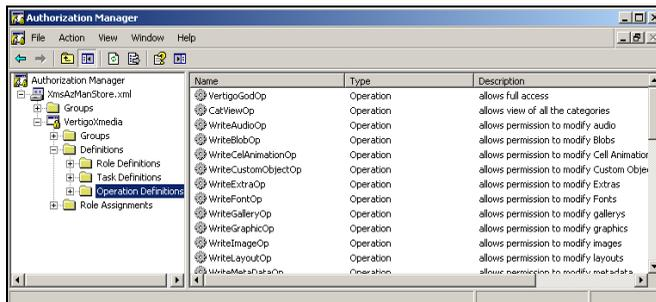

Figure 19-22. The operations that belong to AzMan's VertigoXmedia application
6. Select the **OPERATION DEFINITION** node. The right-side panel should now be populated with Vertigo Xmedia operations (figure 19-22).